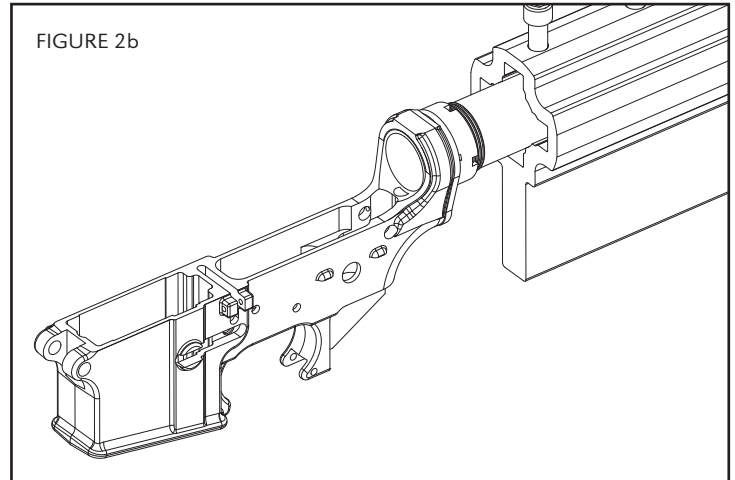

FIGURE 2b
- b. **The 6 O'clock Position:** Removal and installation of the trigger (FIGURE 2b).